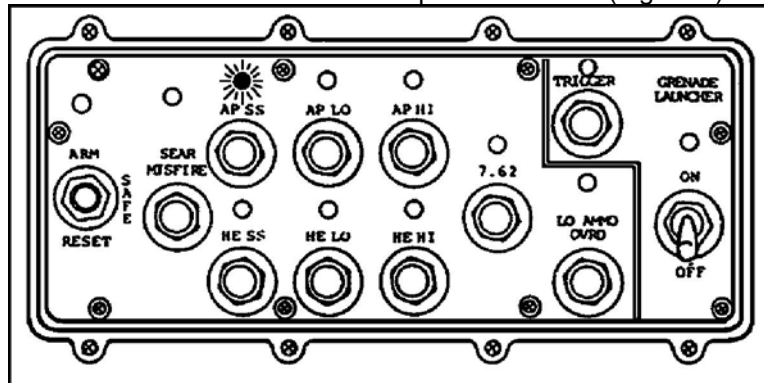

Figure 2. AP SS button and indicator.
- (1) Turn the RANGE control knob to 12 (1,200 meters).
- (2) Move the MAG switch to HIGH (12X) (until it clicks).
- d. Push the AP SS or HE SS button on the weapon control box (Figure 2).